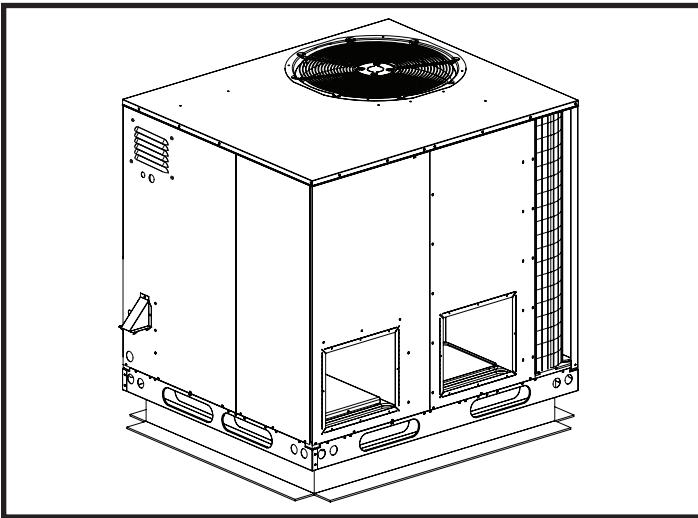

Figure 3. Roof Top Installation
- The appropriate accessory roof curb must be installed prior to unit installation. The roof curb must be square and level to ensure proper condensate drainage. **Please follow all instructions provided with the kit.** See Figure 3 (page 10).